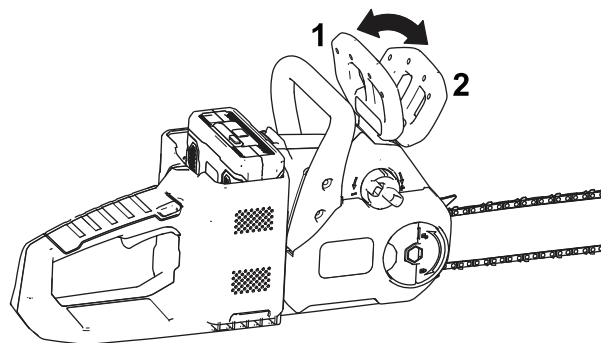

Figure 27
- Engage the chain brake by moving the chain brake forward to the STOP position (Figure 27).
- Disengage the chain brake by moving the chain brake rearward to the OPERATING position (Figure 27).
2. Loosen, but do not remove the wing nut on the cover (Figure 27).